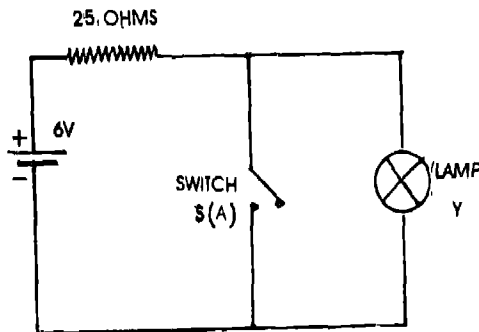

Fig. 22.2
1. Make the connections as shown in Fig. 22.2.